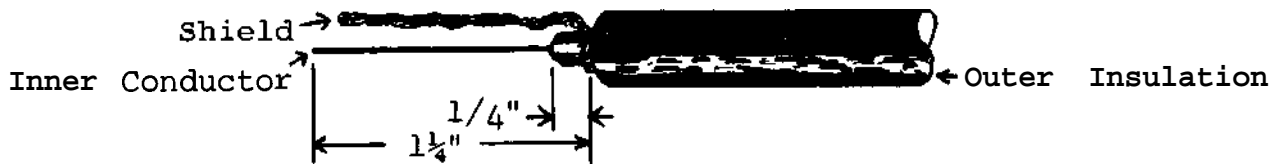

Figure 3-4. Coaxial cable preparation.
- () Step 21. Install coaxial cable, composite video output. (See Figure 3-4 for details on how to prepare cable.)